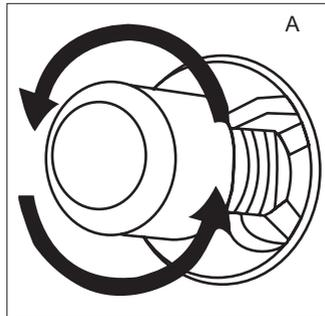
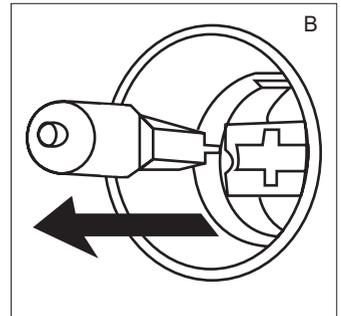

Figure 124
Figure 125
3. Then remove the oven lamp by turning it (see fig. 124) if it is type A, or by pulling it (see fig. 125) if it is type B.